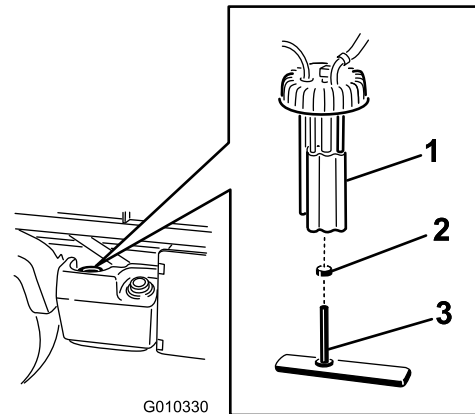

Figure 48
2. Unplug the wire-harness connectors from the fuel pump (Figure 48).
3. Loosen the hose clamp and disconnect the fuel line from the fuel-pump cap (Figure 48).
4. Remove the fuel-pump cap from the top of the fuel tank (Figure 48).
5. Remove the fuel-pump assembly and the fuel filter from the tank (Figure 48).
7. Remove the hose from the fitting (Figure 48).